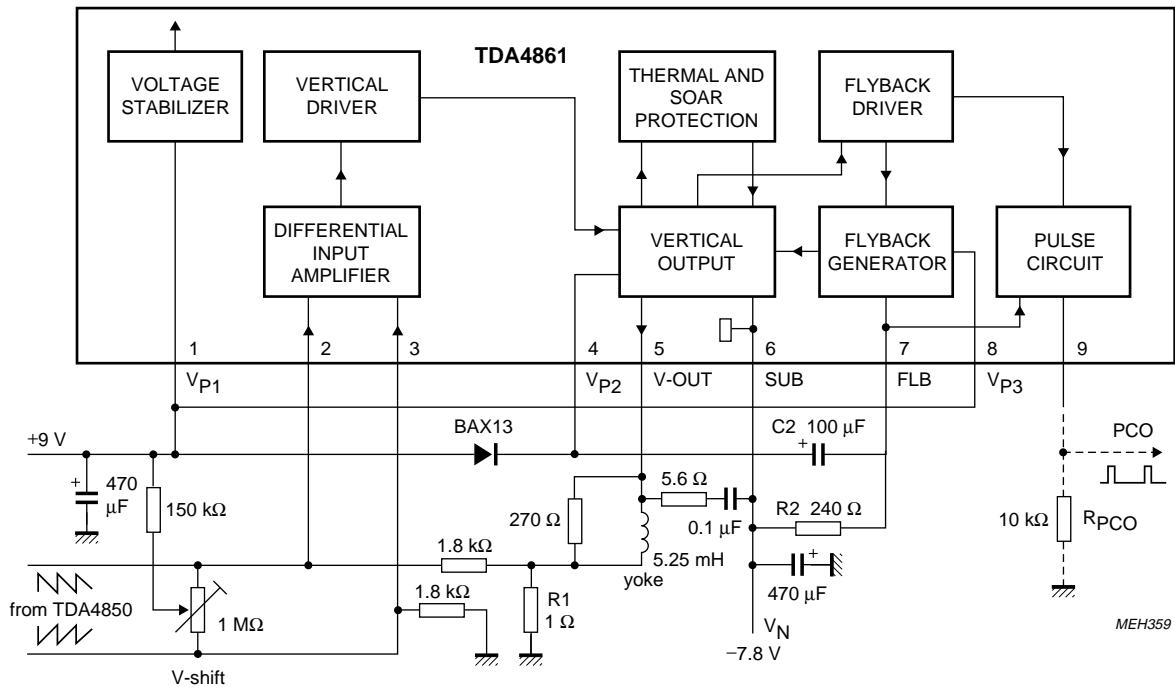

Fig.5 Application for flyback voltage generation by doubling the supply voltage.
2. The flyback voltage is generated by doubling the supply voltage (see Fig.5). The 100 μ F capacitor C2 connected between pins 4 and 7 is charged up to V_{P1} during scan, using the external diode and the resistor R2. The cathode of the capacitor C2 is connected to the positive rail during flyback. Thus, the flyback voltage is twice the supply voltage.